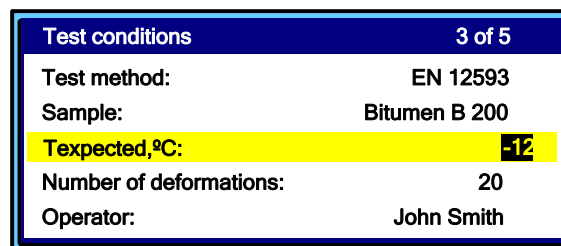

Figure 28 – Mode for entering the expected breaking point temperature
4.10.3.1 In waiting mode, press «*», select the menu item «Test conditions» → «Temperature expected (°C):» and press «Mode». The tester enters the mode for entering the expected breaking point temperature (see figure 28).